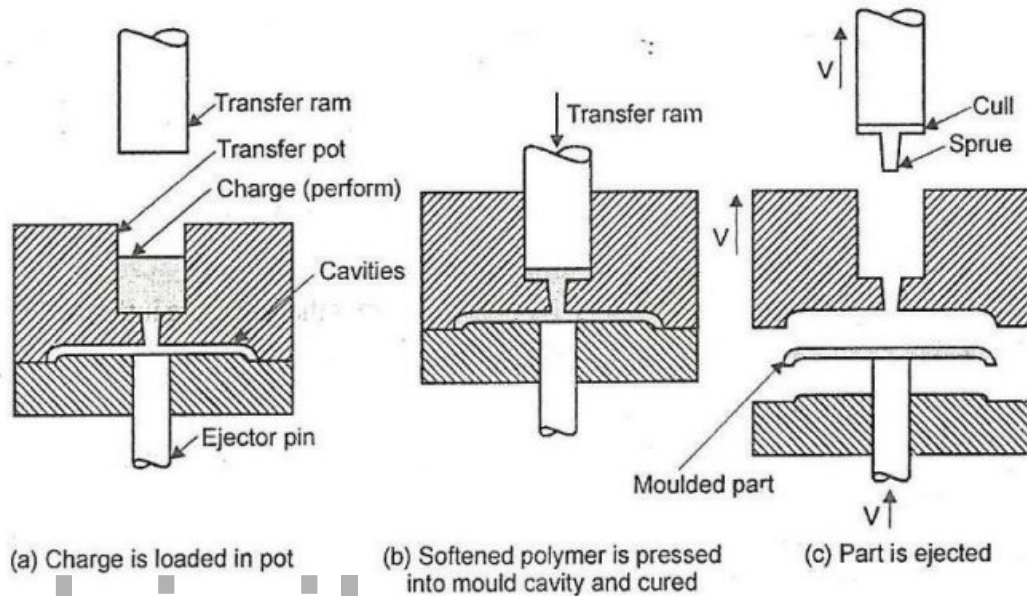

Figure 5.3 Transfer Moulding
- The material is generally in a preheated form and placed in a heated transfer pot. Refer Figure 5.3.